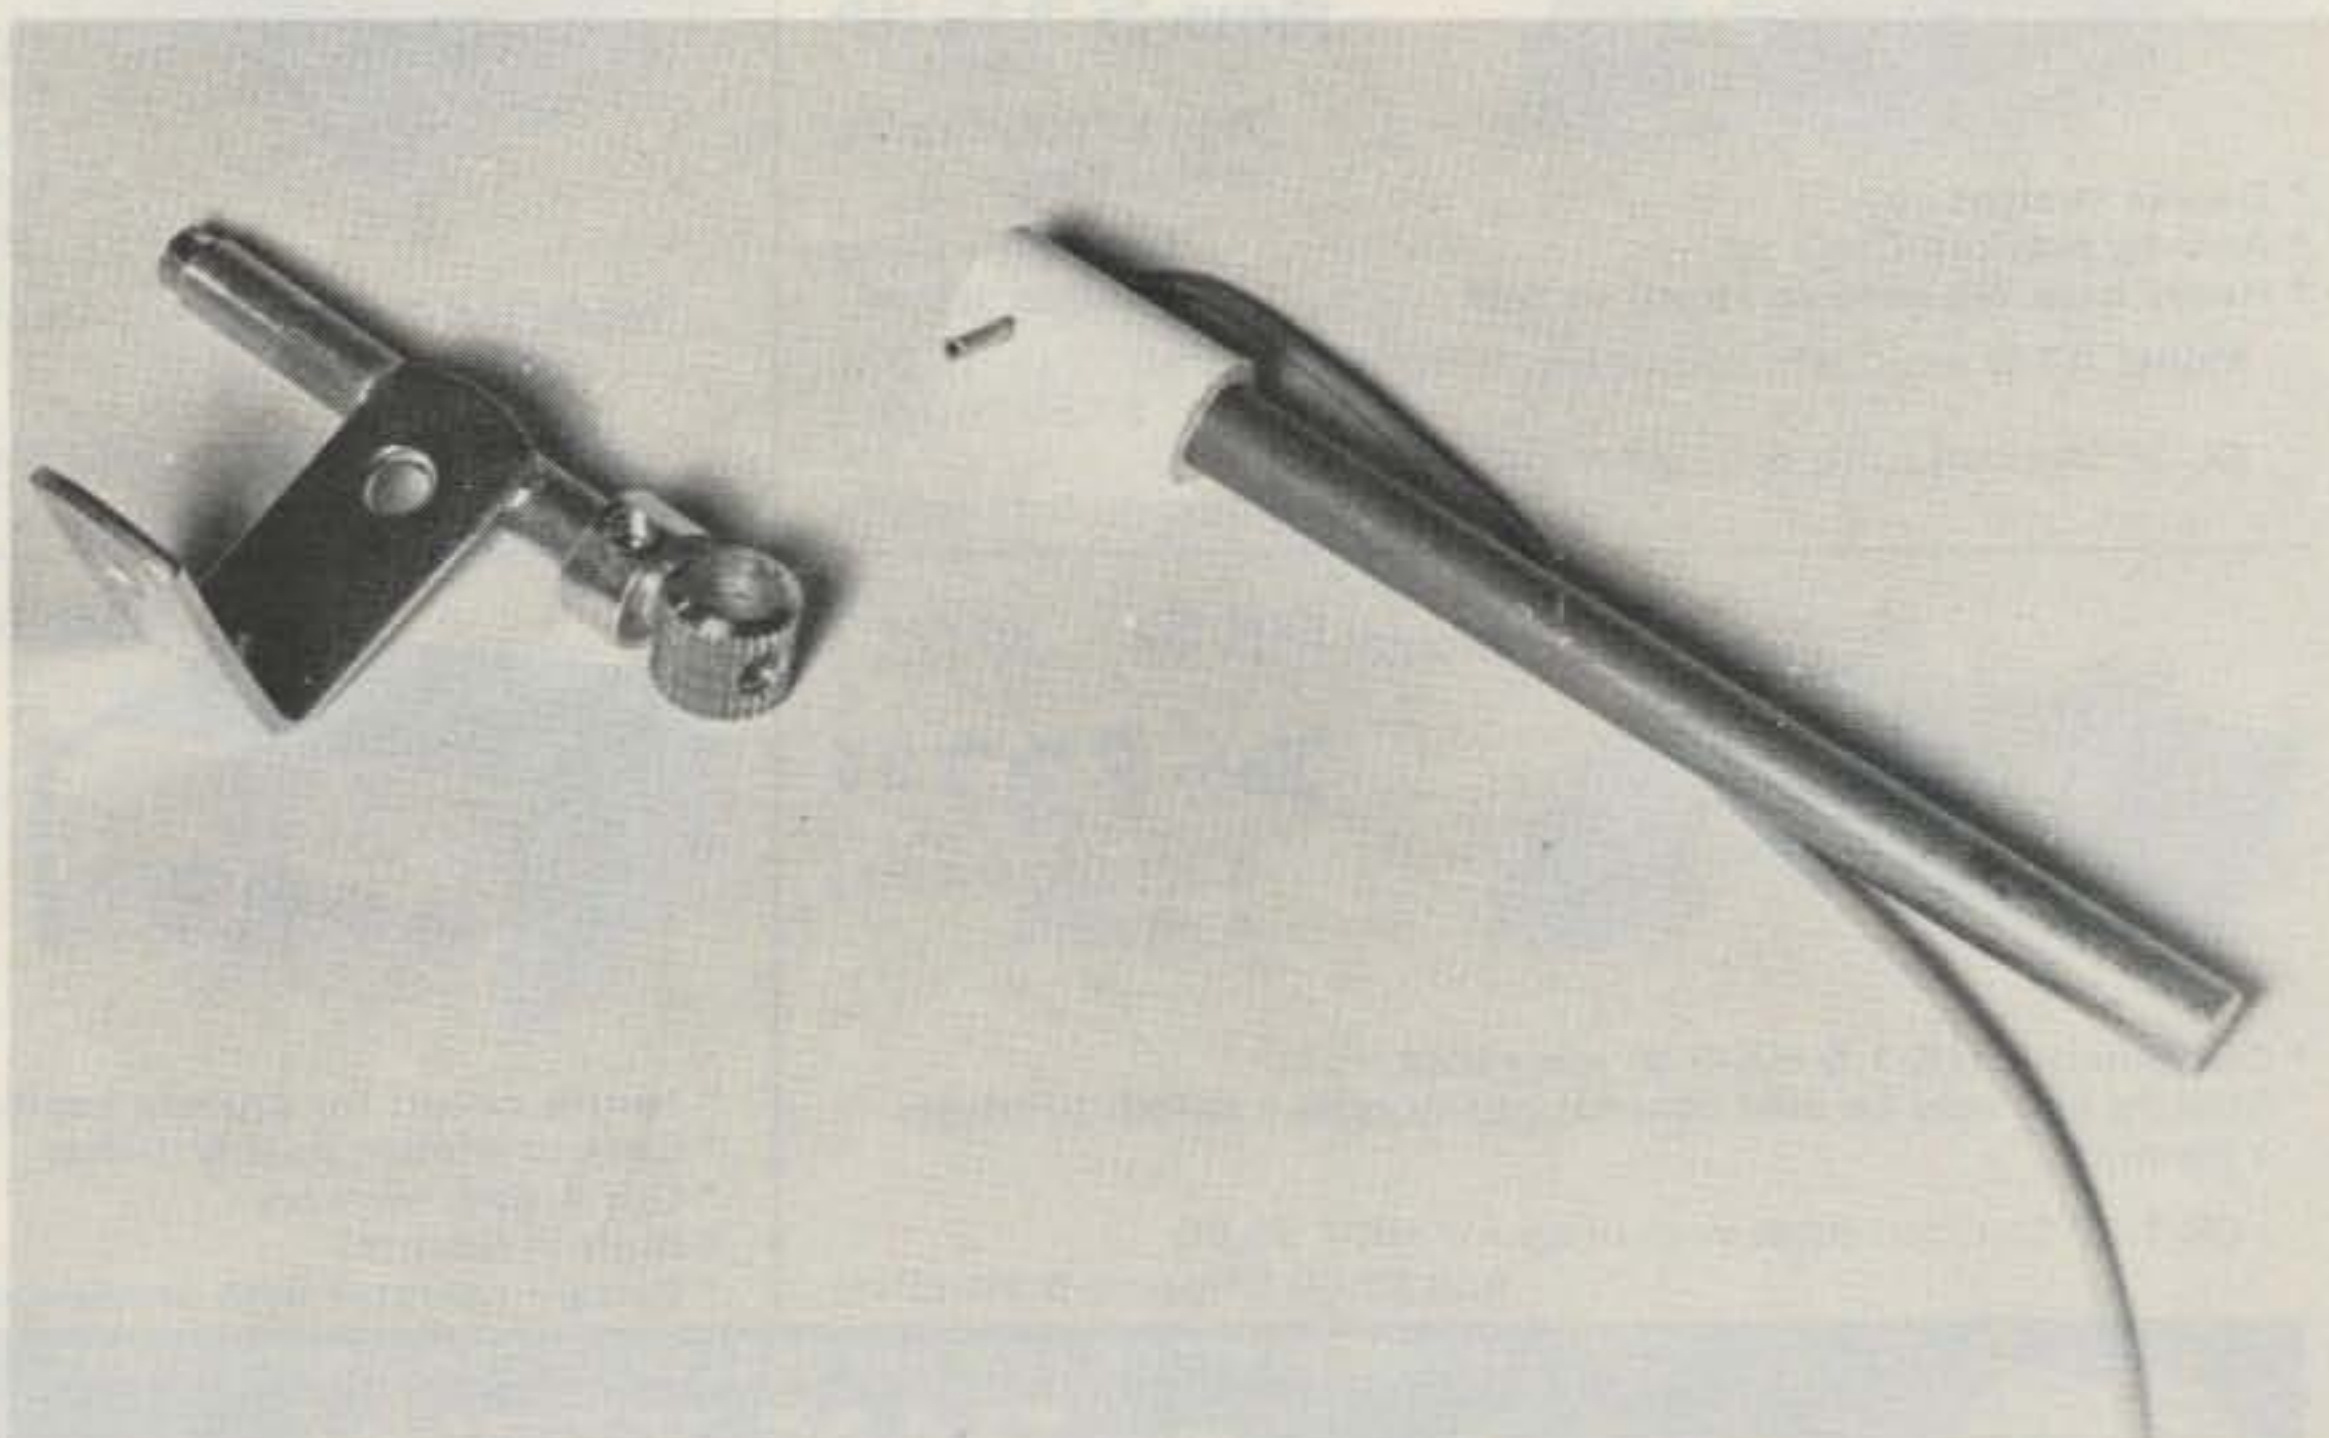

Fig. 6. Stylus pivot and stylus arm assemblies. The stylus support bracket and pivot assembly are shown to the left, while the stylus arm is on the right.
The second brass knob insert, which you had set aside earlier, is soldered to the long piece of tubing (C) which serves as the axle of the support structure for the stylus arm. The bearing for the support of this axle (B) is soldered at the top of the vertical extension of the brass angle bracket. An aluminum "wheel collar," available from the same hobby shop where you get the tubing, serves as a stop at the brass insert end of the shaft, while a small piece of tubing (F) is slipped over the shaft and soldered at the *outside* end to provide the second stop. The tubing pieces should be deburred and the ends filed true prior to assembly. When completed, the inserted knob should rotate very freely but with no excess play in any other axis. Fig. 6 shows the assembled stylus parts to give you some idea how they look when assembled.